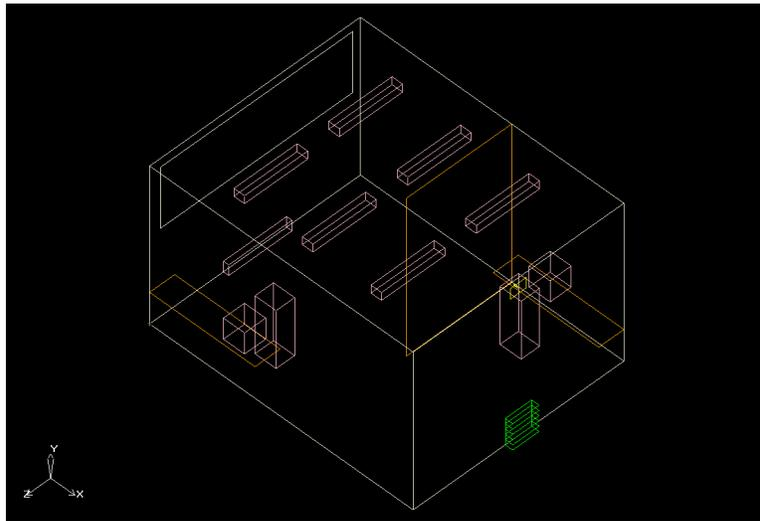

Figure 1.2: Completed Model for the Office Ventilation Simulation
*The completed model will look like Figure 1.2.*